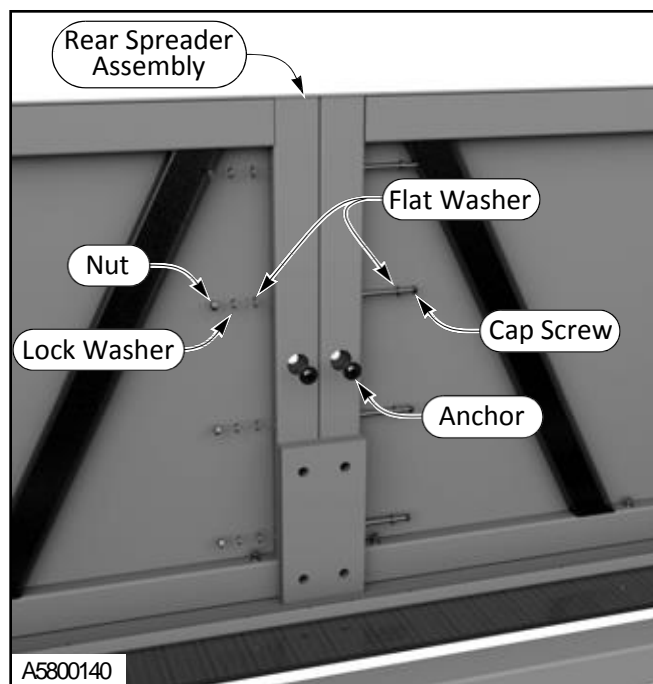

Figure 15
- c. Connect the rear spreaders in the middle using (4) $\frac{3}{8}$ -16 x 7-in. Long Hex Head Cap screws, (4) $\frac{3}{8}$ -in. lock washers, and (8) $\frac{3}{8}$ -in. Flat Washers. (See Figure 15)